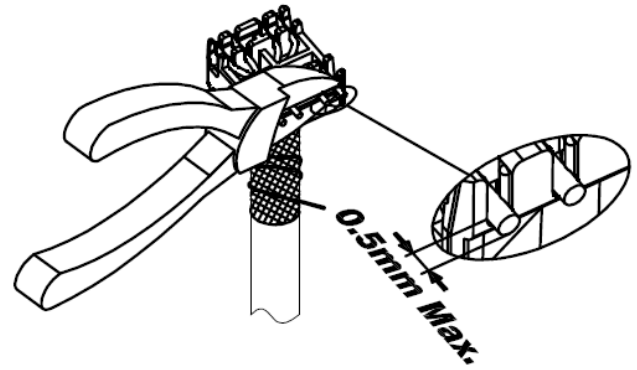

Fig. 10
- 3) Cut the excess wires off. The tips of the wires should protrude no more than 0,5mm (Fig 10)